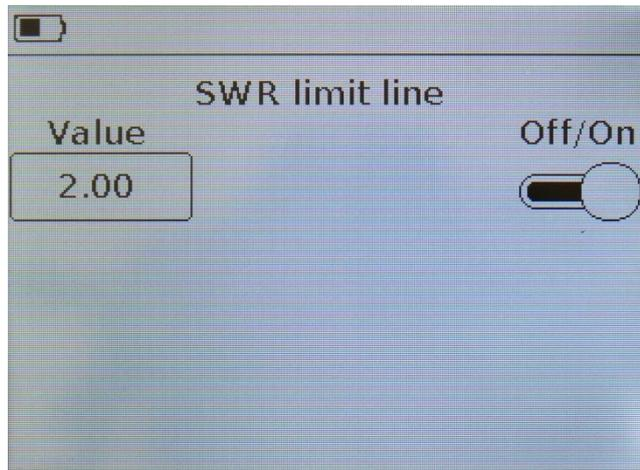

Figure 9.20 – Turning on the display of the VSWR limit line on the Smh, Pol charts and SWR plot
- Enter the **Plots** menu as indicated in section 9.3. and by clicking on the field with the designation of the chart **Smh**, **Pol** or **SWR** plot, go to the settings menu and display the VSWR limit line (Figure 9.20).
- In the **Smh**, **Pol** charts or **SWR** plot view mode, press and hold the button (14) **“PLOT”** for about two seconds and go to the setup menu and display the VSWR limit line (Figure 9.20).
9.8.3. Turning off and on the display of the VSWR limit line on the plots is performed by moving the slider to the **Off / On** position (Figure 9.20).